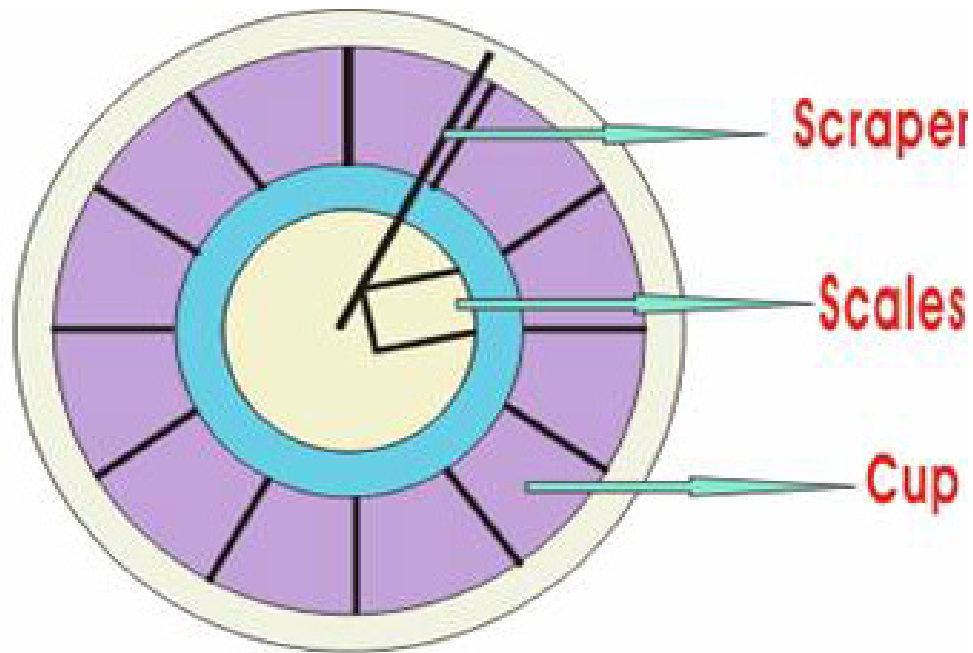

Figure 20.21 Rotary filler with feedback scale (top view)
- Figure 20.21 shows a top view of a twelve head rotary filler with a scale on one cup.